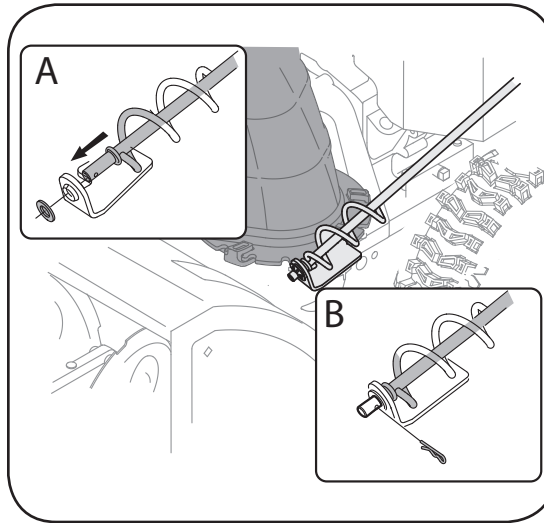

Figure 5
- b. Secure with the flat washer and hairpin clip just removed. See Figure 5.